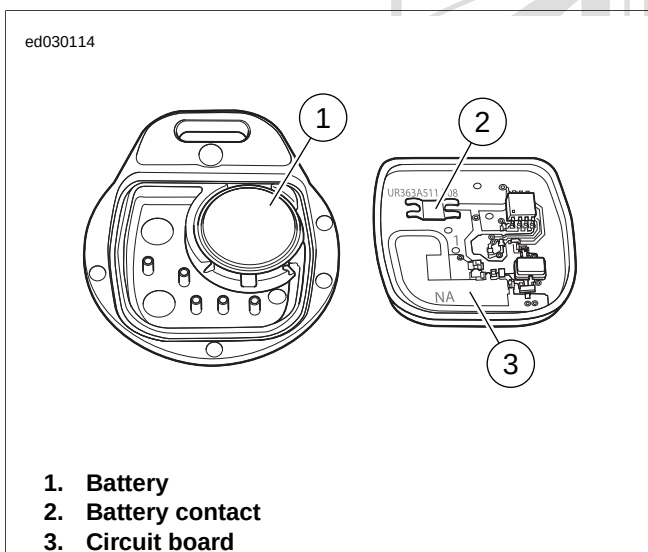

Figure E-29. Open Key Fob: TSSM
- See Figure E-29. Open the key fob case.
- Replace battery (1).
- Align case and circuit board (3) as shown. Snap case halves together.